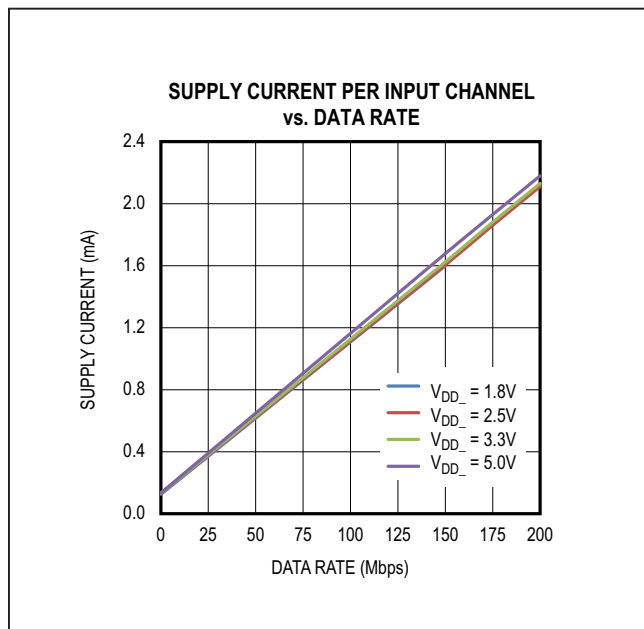
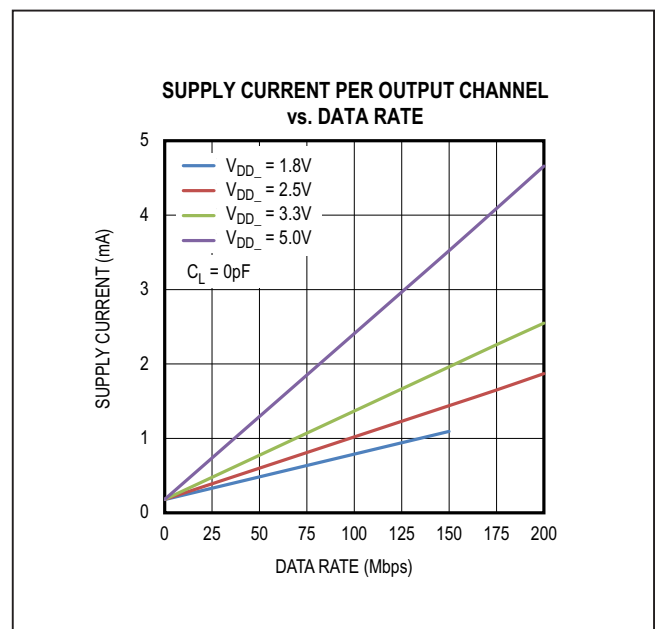

Figure 8. Supply Current Per Input Channel (Estimated)
Figure 9. Supply Current Per Output Channel (Estimated)
The required current for a given supply (V_{DDA} or V_{DDB}) can be estimated by summing the current required for each channel. The supply current for a channel depends on whether the channel is an input or an output, the channel’s data rate, and the capacitive or resistive load if it is an output. The typical current for an input or output at any data rate can be estimated from the graphs in Figure 8 and Figure 9. Please note the data in Figure 8 and Figure 9 are extrapolated from the supply current measurements in a typical operating condition.
The total current for a single channel is the sum of the “no load” current (shown in Figure 8 and Figure 9) which is a function of Voltage and Data Rate, and the “load current,” which depends on the type of load. Current into a capacitive load is a function of the load capacitance, the switching frequency, and the supply voltage.
- Channel 1 is an input channel operating at 2.5V and 20Mbps, consuming 0.33mA, estimated from Figure 8.
- Channel 2 and 3 are input channels operating at 2.5V with DC signal, consuming 0.13mA, estimated from Figure 8.
- Channel 4 is an output channel operating at 2.5V and 100Mbps, consuming 1.02mA, estimated from Figure 9.
- Channel 1 is an output channel operating at 3.3V and 20Mbps, consuming 0.42mA, estimated from Figure 9.
- Channel 2 and 3 are output channels operating at 3.3V with DC signal, consuming 0.18mA, estimated from Figure 9.
- Channel 4 is an input channel operating at 3.3V and 100Mbps, consuming 1.13mA, estimated from Figure 8.